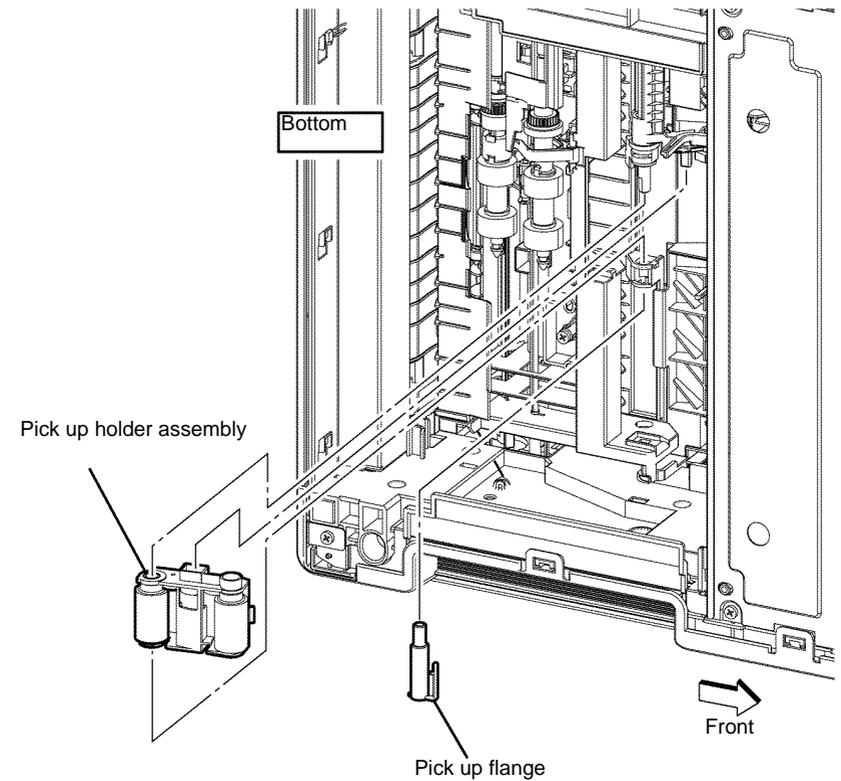

Figure 1 Pick up holder removal
6. Remove the pick up flange by releasing the hook, then remove the pick up holder assembly, Figure 1.